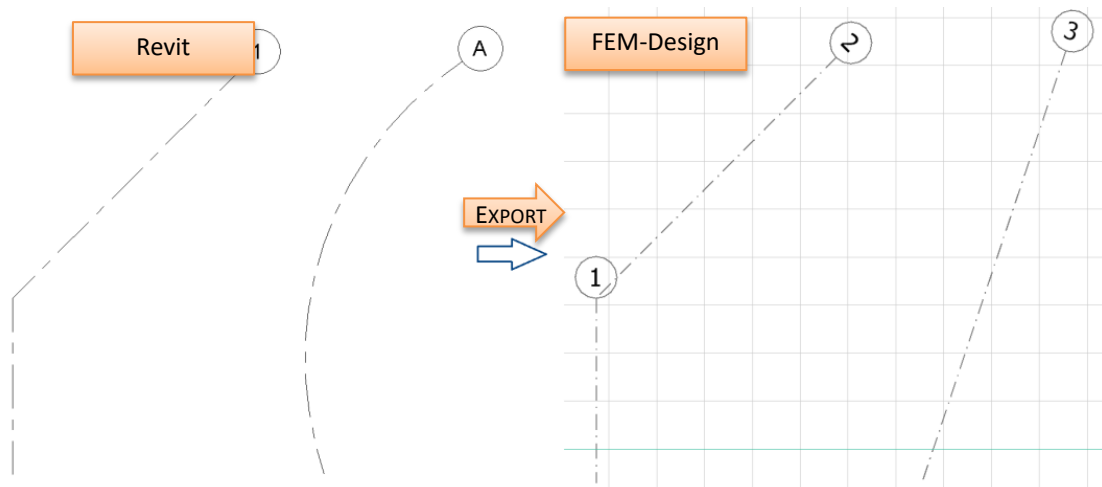

Figure III-21
- curved grid after export from Revit to FEM-Design will be replaced with a straight line axis between the start and end point of the original curved grid, as shown in Figure III-21.